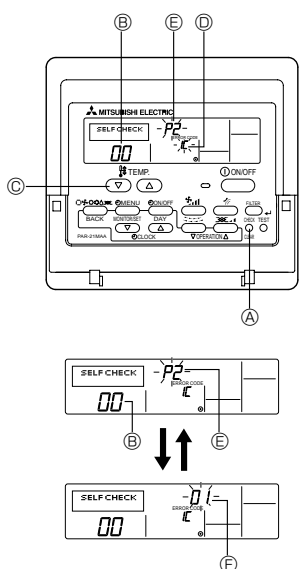
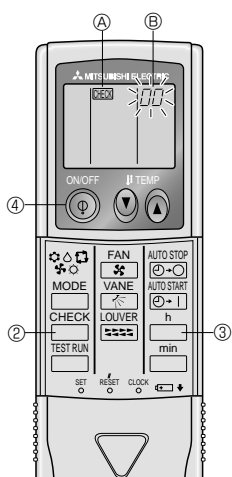

Fig. 7-3
Fig. 7-4
7.3.1. Wired remote controller (Fig. 7-3)
- ① Turn on the power.
- ② Press the [CHECK] button.
- ③ Set refrigerant address with [TEMP] button if system control is used.
- ④ Press the [ON/OFF] button to stop the self-check.
7.3.2. Wireless remote controller (Fig. 7-4)